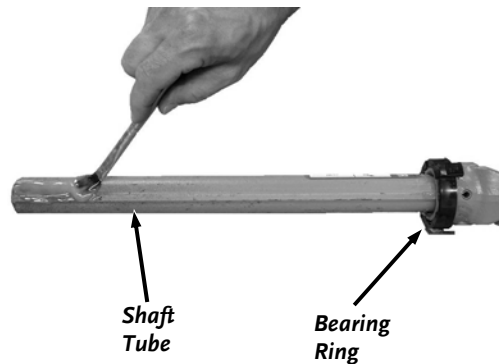

Figure 29
6. Grease both Shaft Tubes and under the Bearing Rings of each Shaft (**Figure 29**).